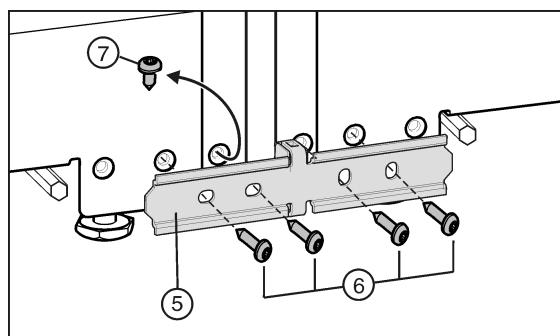

Fig. 24
- If your appliance has been fitted with the pre-fitted screw Fig. 24 (7): Undo the screw.
- Fix the connecting sheet Fig. 24 (5) loosely to one appliance with two screws Fig. 24 (6).